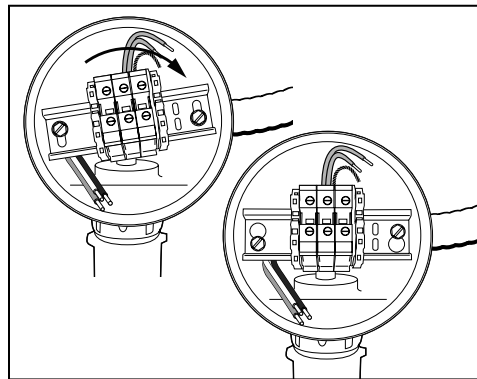

Figure 15-34
15.7.10. INSTALL QUICK MOUNT TERMINAL BLOCKS (Figure 15-34)